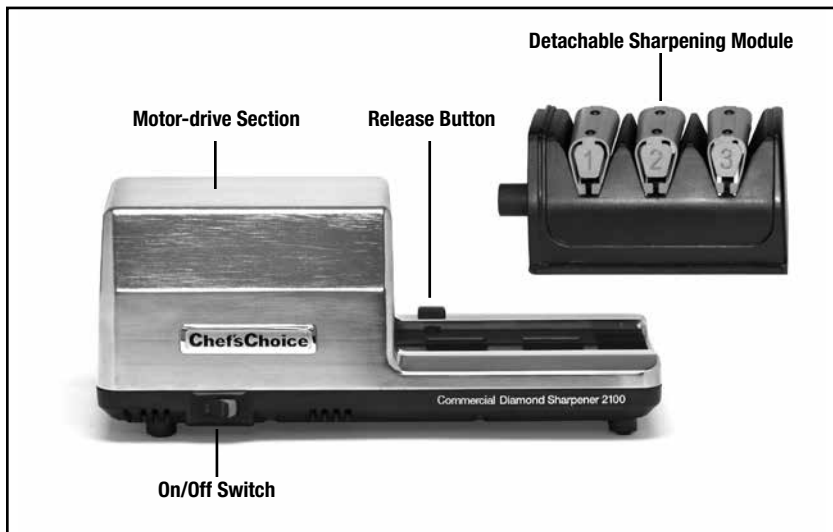

Figure 1. Model 2100 sharpener disassembled.
4. Disconnect the appliance from its power source when not in use, before cleaning, during service and when replacing parts (Figure 1).
The Model 2100 has a cast metal motor-drive housing and a detachable Sharpening Module that are packed together but are not assembled (See Figure 1).